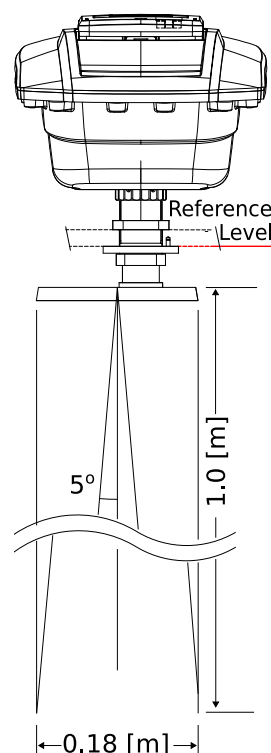

Figure 2.1: The  $5^\circ$  [deg] half top angle of the F08 antenna beam and the reference level for mounting height measurement.
- It is advised to choose a mounting position such that the WaveGuide radar beam is free of large reflecting obstacles (the beam of the F08 antenna can be approximated to a conical shape having a  $5^\circ$  [deg] half top angle as shown in Fig. 2.1). The minimum horizontal distance between a sensor and any obstacle in the beam's path should be at least 10% of the vertical distance between the sensor and the obstacle. This does not only include horizontal objects in the beam's path but also vertical structures.
- The minimum measuring distance is at 2 meter. As such, the sensor should be mounted with its reference point at least 2 meter above the highest expected waterlevel during the period in which the water surface is monitored. The reference level for the mounting height of the radars is shown in Fig. 2.1.